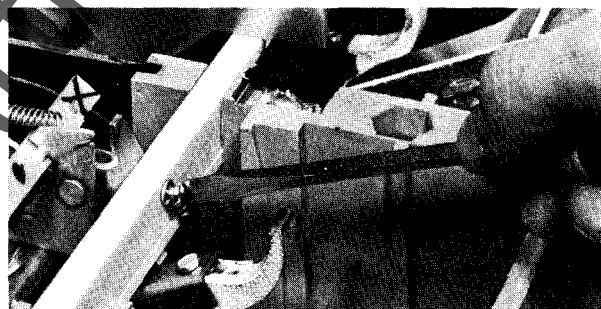

Fig. 25.
5. Secure auxiliary switch assembly to arm stop with two #8 x 9/16 screws and lock washers (Fig. 25). Tighten to 23 inch pounds.